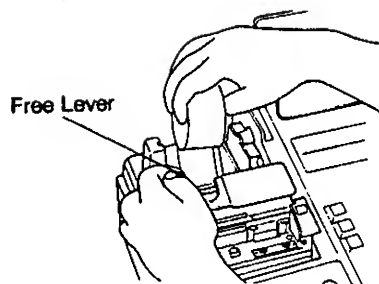

Fig. 7
2. Press the Free Lever down and pull the old paper core upward to remove the remaining paper end. (Fig. 7)